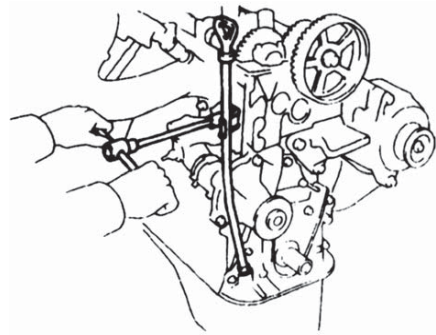

Figure 125
1. Replace water pump. See (Figure 125)